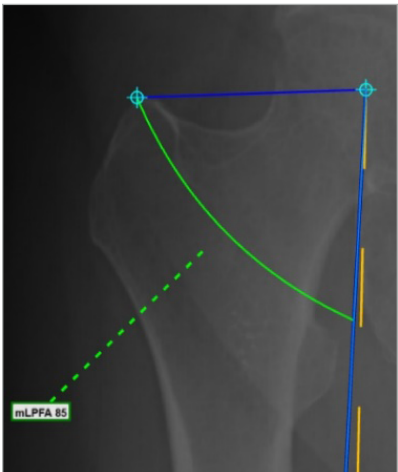

Figure 76
1. The proximal femur markers are placed at the center of the femoral head and the tip of the greater trochanter. **(Figure 76)**